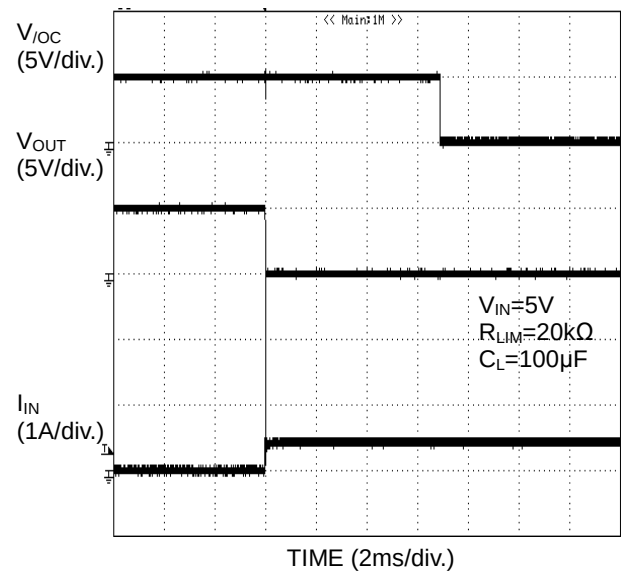

Figure 48. Over Current Response
(2). When the output short-circuits or when high current load is connected while the switch is on, very large current flows until the over current limit circuit reacts. When this happens, the over-current limit circuit is activated and the current limitation is carried out. (See figure 48)